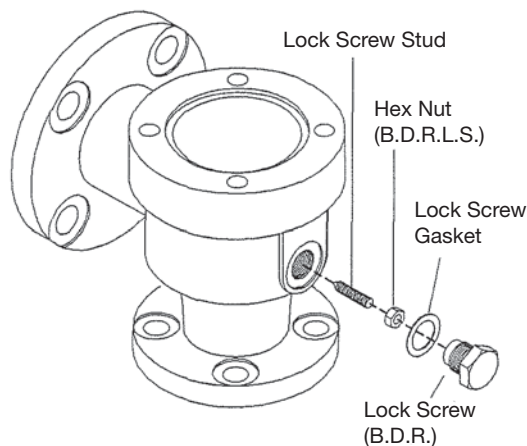

Figure 9.1
5. Thread the **Lock Screw Assembly** into the **Body** [1] including the **Lock Screw Gasket** [24]. Adjust the position of the **Lock Screw Stud** [13] so that it prevents rotation of the **Blow Down Ring** [7] yet does not bind it. Use the position noted during disassembly. (**Figure 9.1**)